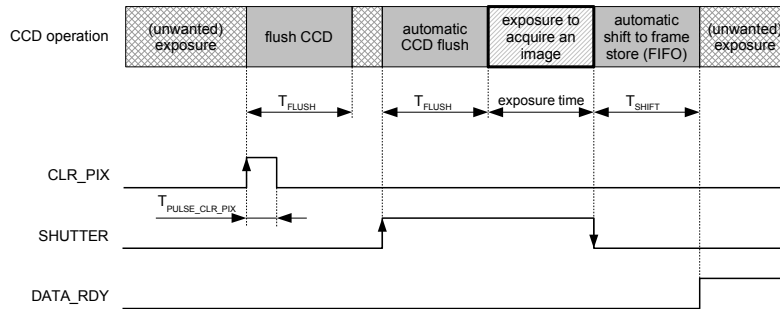
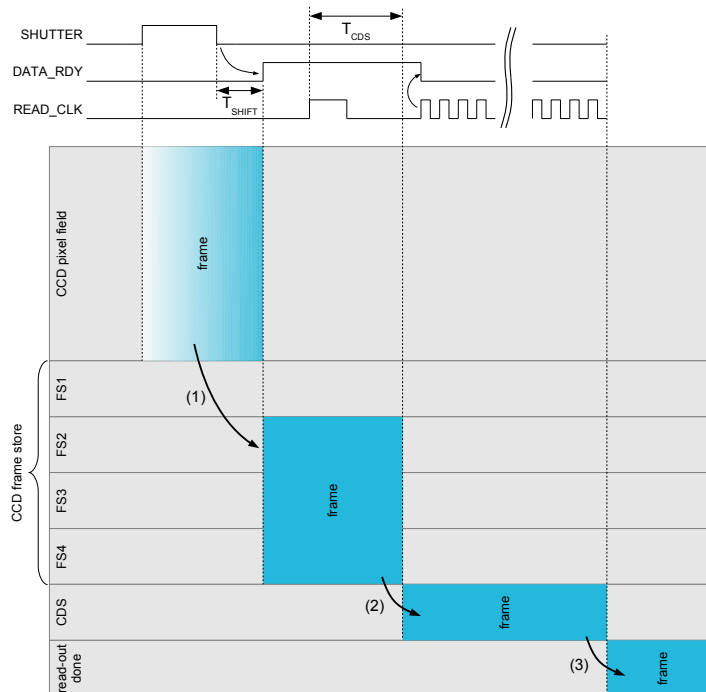
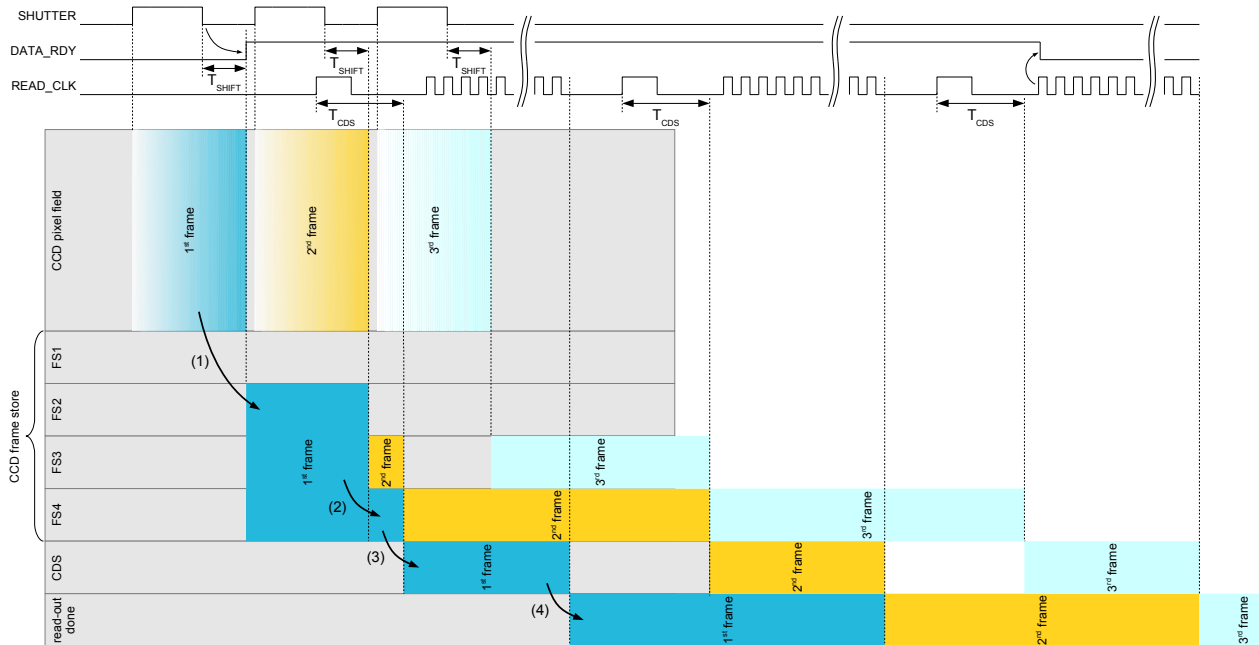
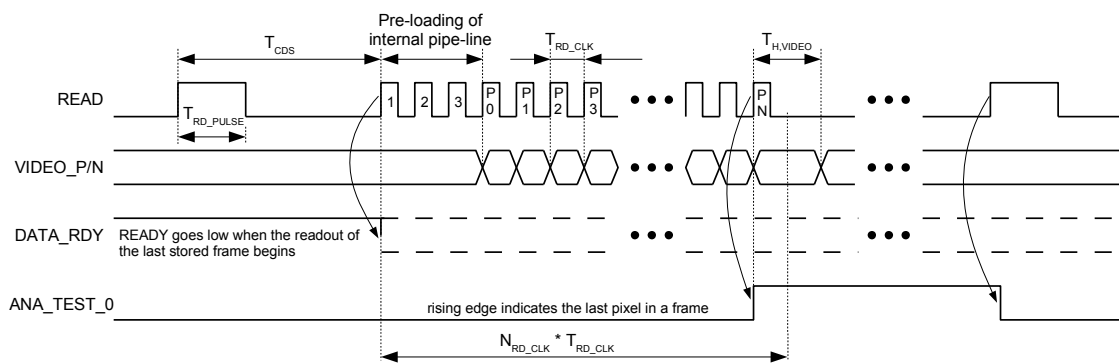

Figure 9: Image acquisition timing
Figure 10: Example of single-frame acquisition and read-out
Figure 11: Multi-frame acquisition and read-out
Figure 12: Image readout timing of one frame
The acquisition of a frame is controlled by a pulse on the SHUTTER pin (see Figure 9). The rising edge triggers the internal flush operation to erase the CCD from any unwanted electrons prior to the exposure. The exposure starts automatically after the flush operation is completed. The CCD collects electrons thereafter as long as the SHUTTER pin is high. Upon the falling edge of SHUTTER, the charge collected in the CCD pixel field is shifted to the CCD frame store which is an area which is not photo-sensitive (see (1) in Figure 10). As soon as the frame is ready for read-out, the signal DATA_RDY goes high. The image is ready to be readout as described in section 5.4.
Up to 4 images can be acquired and stored in the frame store in a fast sequence without intermediate read-out. The frame store is organized in 4 frame store elements (FS1-FS4), thereby each frame store element can store one frame/image. The first captured image initially occupies 3 frame store elements as for a single-frame acquisition (see section 5.2 and Figure 10). epc901 automatically detects a multi-frame acquisition when detecting the second SHUTTER signal without prior read-out. Upon the second shutter, the first image is shifted to a single frame store element (see (2) in Figure 11). The frames are shifted from the pixel field to the frame store as a FIFO: The first captured image is the first one to read out. The read-out is described in more detail in section 5.4. As soon as 4 frames have been captured without prior read-out, at least one read-out has to be issued prior the next shutter in order to make FS1 available again. Excessive shutter pulses are ignored.
The first pulse of a read sequence applied to pin READ is a Read Pulse and must have a duration of T_{RD_PULSE} . Upon this Read Pulse, the last frame in the frame store is converted pixel-wise from charge to voltage. This operation is called correlated double-sampling (CDS) and lasts for the time T_{CDS} . Following the Read Pulse, respecting a delay of at least T_{CDS} , Read Clock pulses are applied to the READ pin in order to transfer the pixel voltages to the VIDEO_P/N pins. The first 3 Read Clock pulses, designated with 1, 2 and 3 in Figure 12, are used to pre-load the pipeline. Thus the first 3 pixel voltage values on VIDEO_P/N can be ignored. The subsequent Read Clock pulses, designated with P0 ... PN in Figure 12, transfer the pixel voltage values through the video amplifier to the VIDEO_P/N pins.
The signal DATA_RDY remains high as long as there is at least one frame stored in the CCD frame store. If no more frames are stored except the one that is currently read out, the signal DATA_RDY goes to low state on the first positive Read Clock edge (see Figure 12). If no frame is stored, the chip does nothing upon a Read Pulse.
- The following time periods shall never overlap in any multi frame acquisition or by parallel reading during exposure: T_{FLUSH} with T_{CDS} and T_{SHIFT} with T_{CDS} . Refer for these signal to Figure 9 and Figure 12.